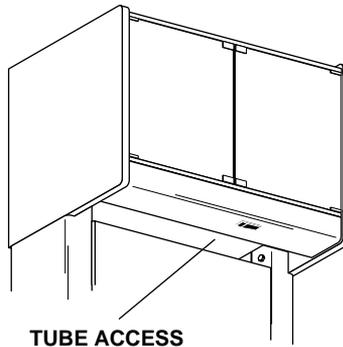

Figure 5. Accessing the Fluorescent Tube
*To replace a burned-out fluorescent light, reach up into the recessed area above the workspace (see Figure 5) and carefully twist the tube 45°. Then lower the tube, tilting it slightly at one end to avoid the switch wire extending underneath the light.*